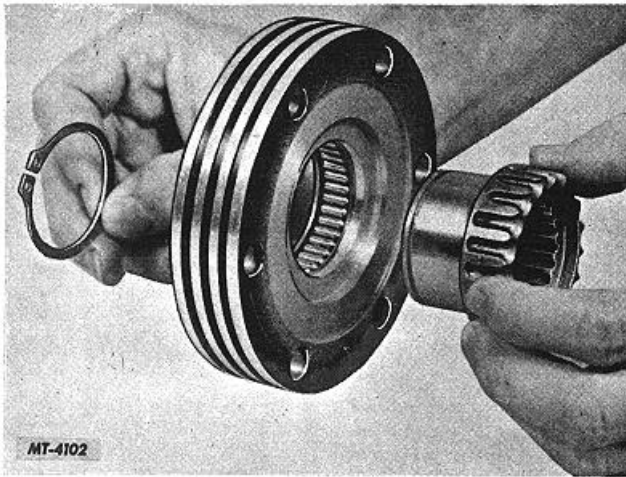

Fig. 7. Removing Axle Shaft Hub
To disassemble hub body (3), remove snap ring (1) using the proper pliers. The axle shaft hub (4) may be pulled from hub body (3) noting from which side of the hub body the axle shaft hub is extracted, Fig. 7. Needle bearing assembly may be removed from hub body (3) if necessary.
Place axle shaft hub (4) into hub body (3) as shown in Fig. 7. Secure axle shaft hub (4) in body (3) by installing snap ring (1) in groove in end of axle shaft hub.